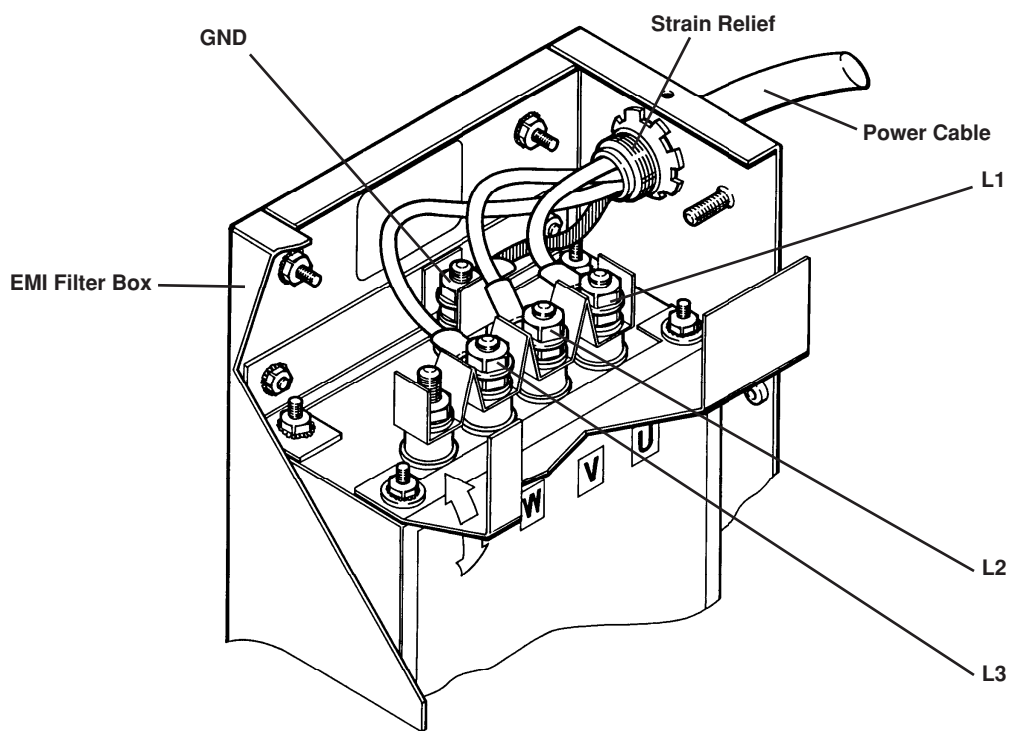

Figure 3-2 MAX100D Primary Power Connections
4. Connect leads L1 to U, L2 to V, and L3 to W terminals of the filter (see Fig. 3-2). Ensure that all connections are tight to avoid excessive heating.